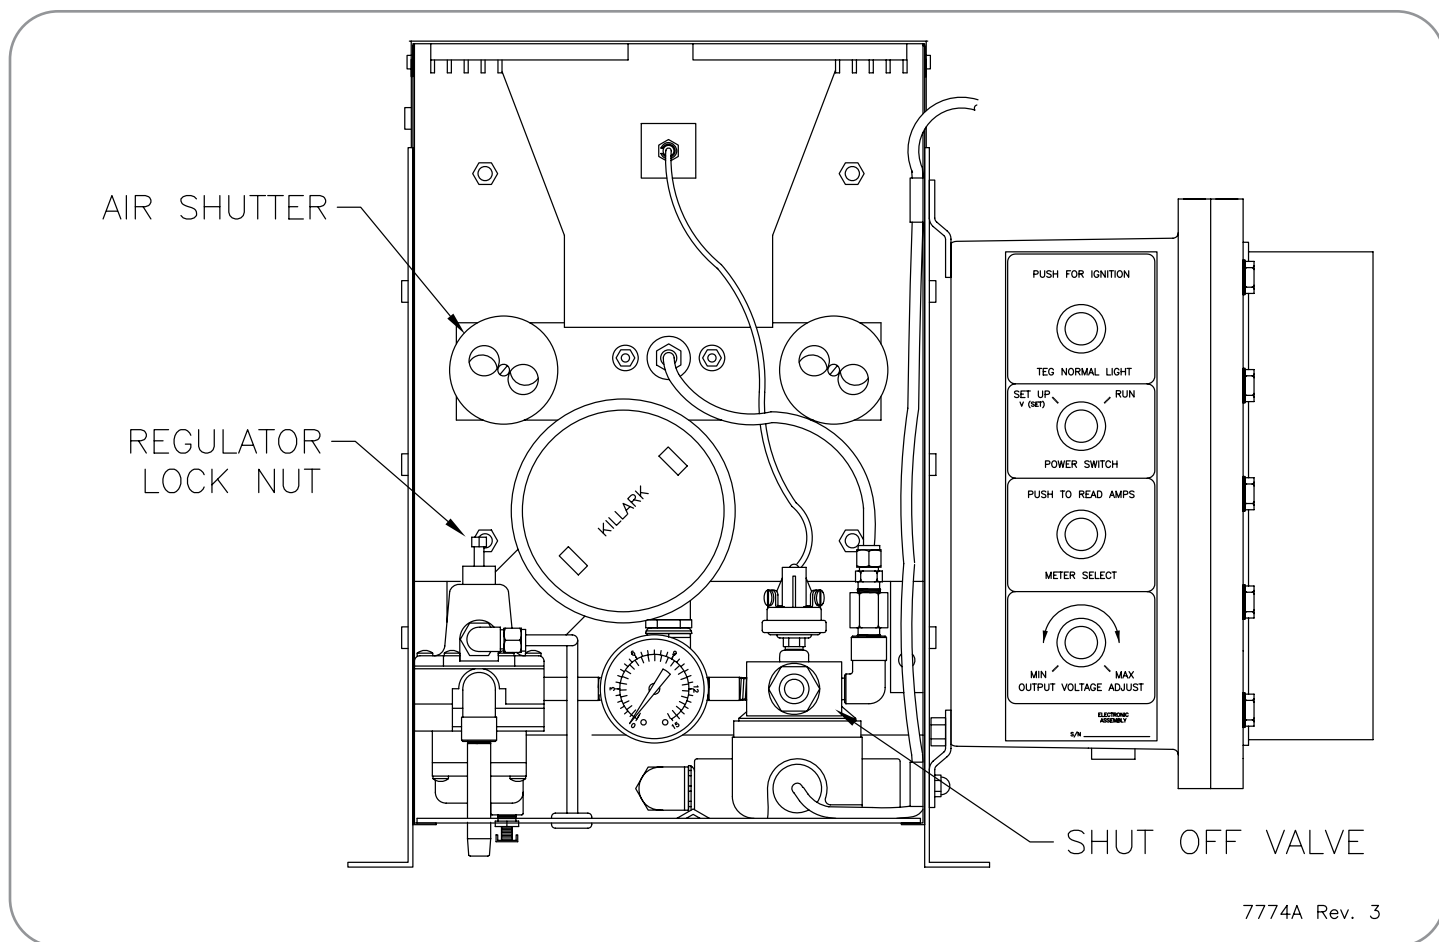
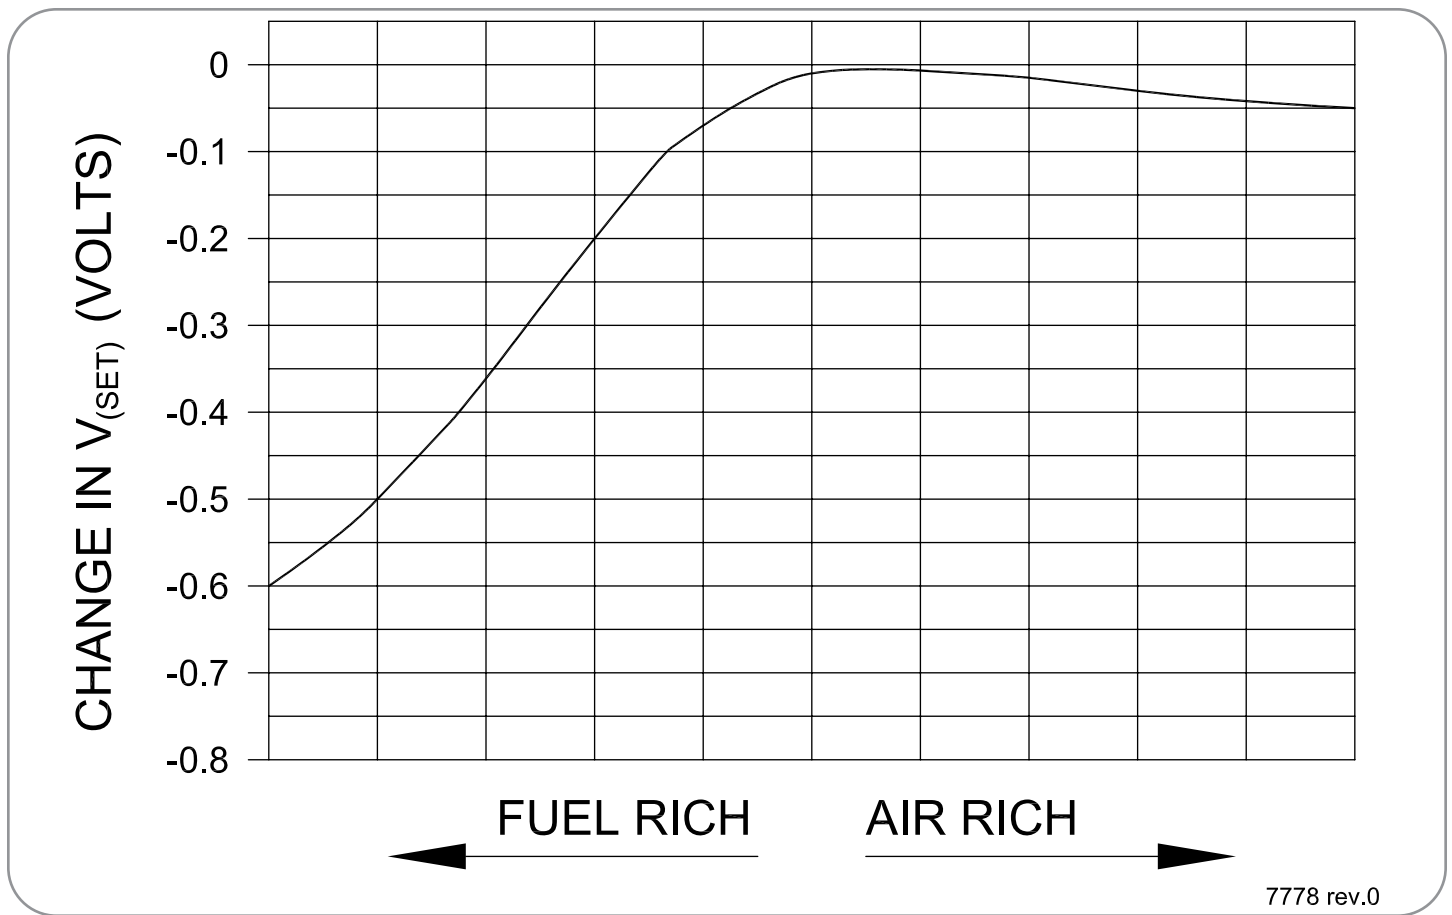

Figure 10 TEG Start Up
Figure 13 Change in V_{set} Vs Air Shutting Setting
Perform the following steps (see Figure 10):
- 3) If V_{set} is greater than 6.5 volts, the fuel pressure is set for more than rated power. Reduce the fuel pressure by 9.8 kPa (1.4 psi) at this time, see Figure 10 and Figure 13.
This burner contains dual air shutters which control the amount of air used for combustion. See Figure 10.
Figure 13 shows change in V_{set} as a function of air shutter settings. Observe that V_{set} decreases more rapidly on the fuel rich side than on the air rich side. For this reason a fuel rich operation is to be avoided.